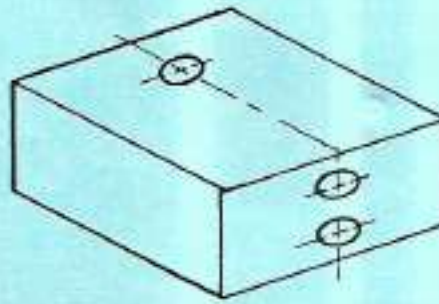

Fig.5
6. Figure 5 shows a component which is cuboid in shape and has **three** holes to be drilled simultaneously. Design a device that can be used to hold the component assuming that a multi-drilling machine is available for the operation. (15 marks)